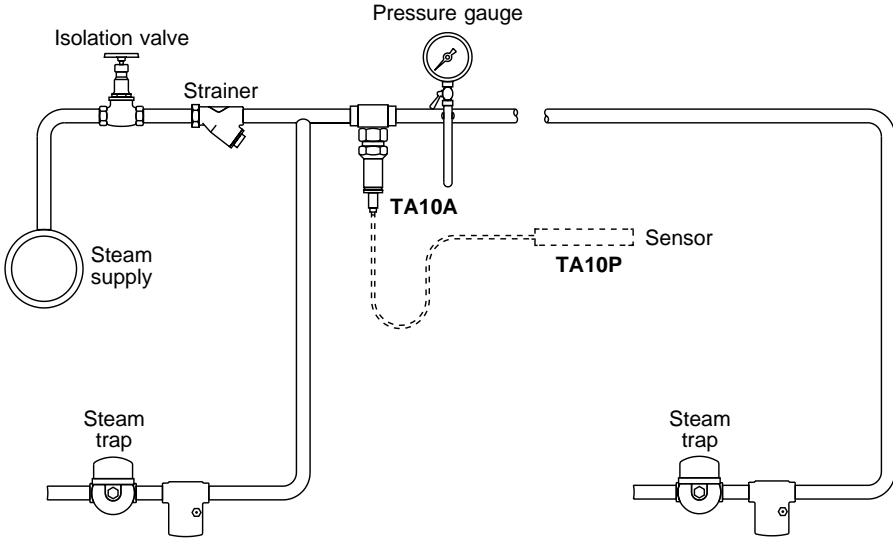

Fig. 2 Typical application
- 3.1** Ensure all pipework is cleaned out before installing the valve. It is recommended that a strainer is fitted before the valve (see Figure 2).